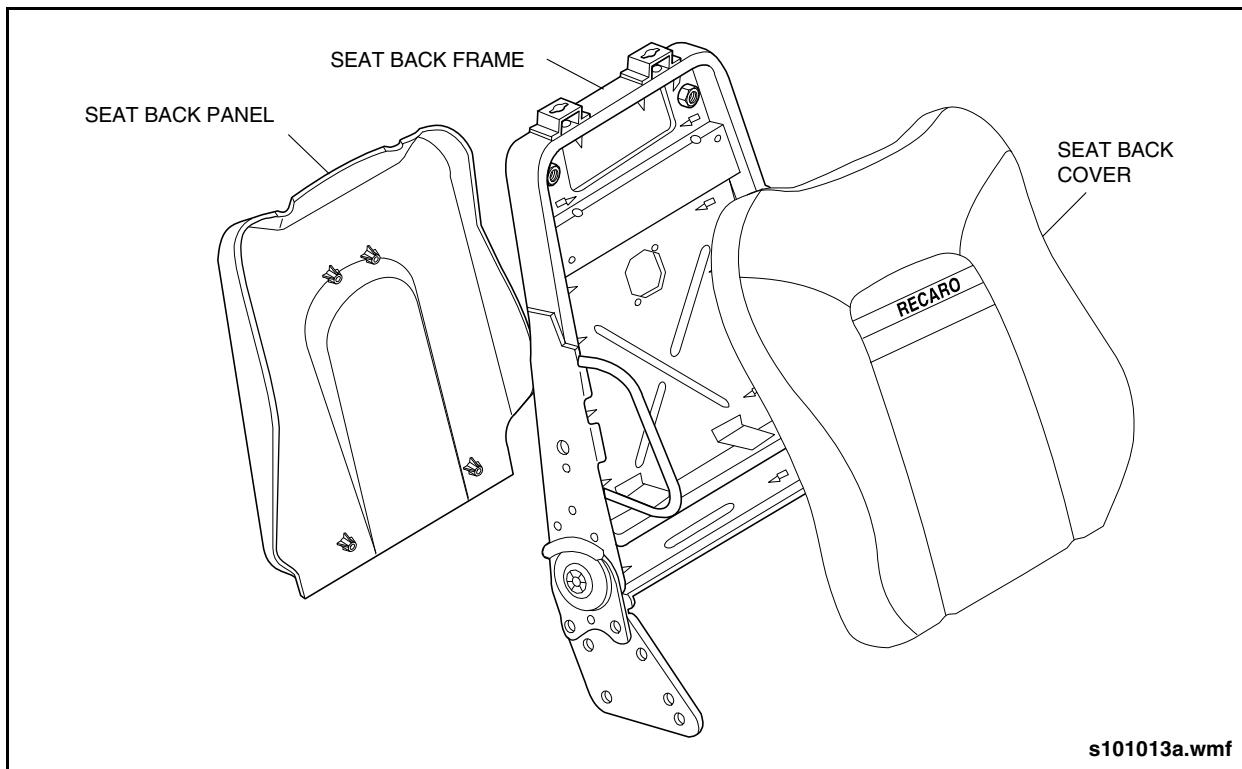

Fig. 17-7: Cover Retainer
9. Tilt seat back fully forward, align grooved retainer on seat back cover with J-retainer on back panel and slide back cover into position. See "Fig. 17-7: Cover Retainer" on page 8.